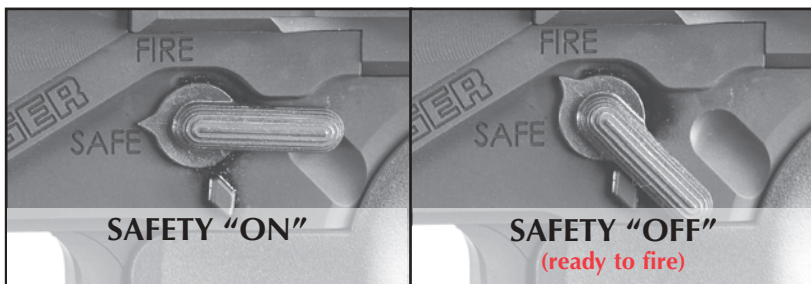

Figure 4
The manual safety mechanism on the **RUGER PRECISION RIFLE®** is located on the left side of the lower receiver rearward of the trigger. The safety selector switch can be moved from the “FIRE” position to the “SAFE” position only when the firing pin is cocked. (Fully raising the bolt handle cocks the firing pin.) The safety selector switch is “on” when it is in a fully horizontal position pointing to the word “SAFE.” (See Figure 4, p. 12.) When the safety is on “SAFE,” it blocks the trigger. The “FIRE” position is reached by rotating the lever towards a vertical position. The lever will stop when the pointer reaches the word “FIRE.”
2. Position the safety selector switch in the “SAFE” position (see Figure 4, p. 12).
10. Position the safety selector switch in the “SAFE” position (see Figure 4, p. 11). Note that cocking the firing pin by lifting the bolt handle is required to allow the rifle to enter the “SAFE” mode.
8. Position the safety selector switch in the “SAFE” position (see Figure 4, p. 12).